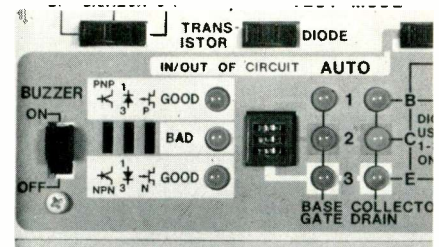

Figure 2 Socket and controls for in-circuit transistor tests are located on the lower-left section of the panel.
In the Figure 1 counter, for example, highs must be at all NAND inputs simultaneously (see Figure 2). Unfortunately, the time delay between output highs from the first and fourth flip flops can be sufficient to prevent the fourth flip flop high from arriving at the NAND before a high from a previous flip flop has begun to drop toward zero volts (low). This causes a narrow glitch which resets the counter too soon.
In Figure 2, examine the column of binary states. The resetting binary condition is 1010; therefore, try to find two that do not occur in any count previous to 10. Of course, the NAND inputs can come from the NOT-Q outputs, if desired. Six different pairs of NAND inputs are possible from the four binary digits.
Figure 2 (A) The 4-input NAND column is for Figure 1, and it proves the counter will reset at the beginning of decimal 10 count. (B) Outputs from FF4 and FF2 were selected for the 2-input NAND of Figure 3. Use the binary count column to verify this choice.
During an in-circuit good/bad test of transistors, the internal circuitry evidently tries every combination of the three leads. Therefore, it is not necessary to connect the three test leads to any certain elements of the transistor. If the transistor is a PNP type that has some gain in the circuit, an LED marked "PNP" and "good" flashes on and off continuously. In addition, two or three LEDs at the right of the transistor socket (Figure 2) flash on and off in time with the "good" LED. These LEDs are part of the six that identify the base and the two transistor leads that connect to collector or emitter. If only two of the six LEDs flash, the one in the left vertical row indicates the lead that connects to the base. And the one in the right column identifies the collector. By elimination, the one remaining is the emitter.